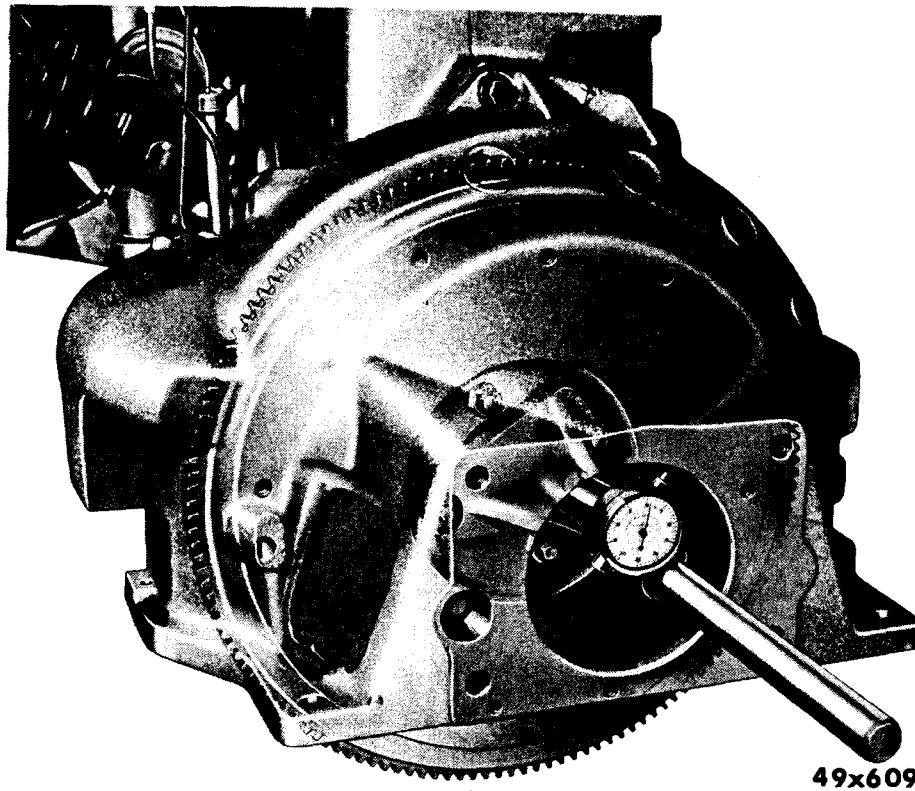

Figure 75 — Flywheel Housing with Tool C-870 Attached
(3) Install the fixture C-870 to the flywheel attaching bolts, (Fig. 75) or, if fluid drive unit is to be installed, attach the fixture to the crankshaft flange bolts and install the indicator (C-435 or C-430) as shown in Fig. 76. Rotate the crankshaft and check the inside diameter of the housing bore; it should not vary more than .005 inch to one complete revolution of the crankshaft. If alignment is necessary, remove the dowel pins and tap the housing until it comes within the specified tolerance. After obtaining correct alignment, tighten the housing cap screws to 30 to 35 foot-pounds torque.